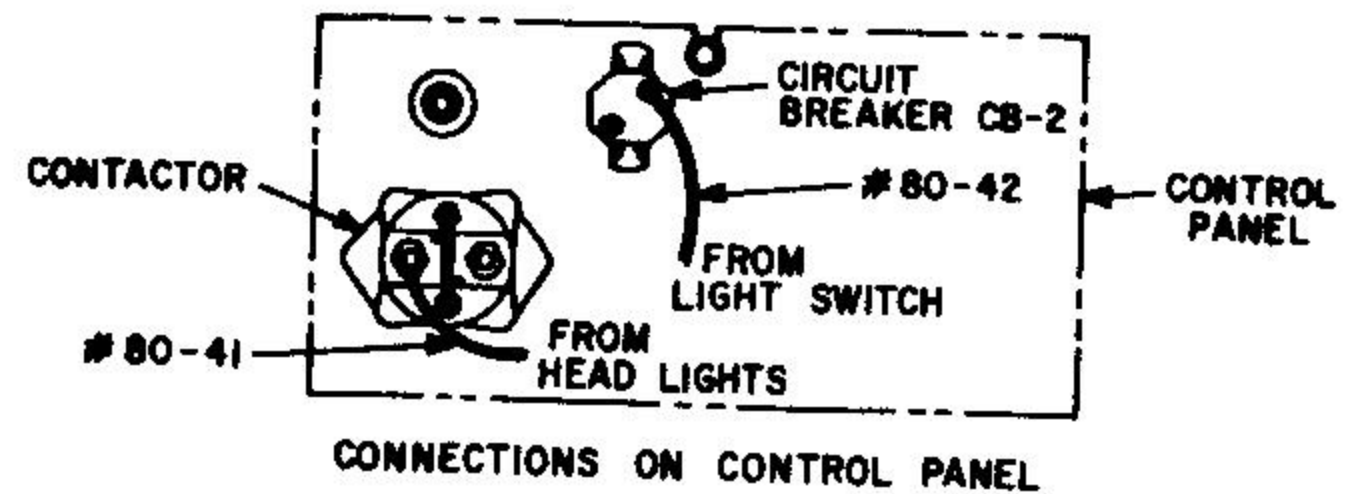

Figure 5B
- Attach wire 80-41 to the L contactor as shown in Figure 5B.